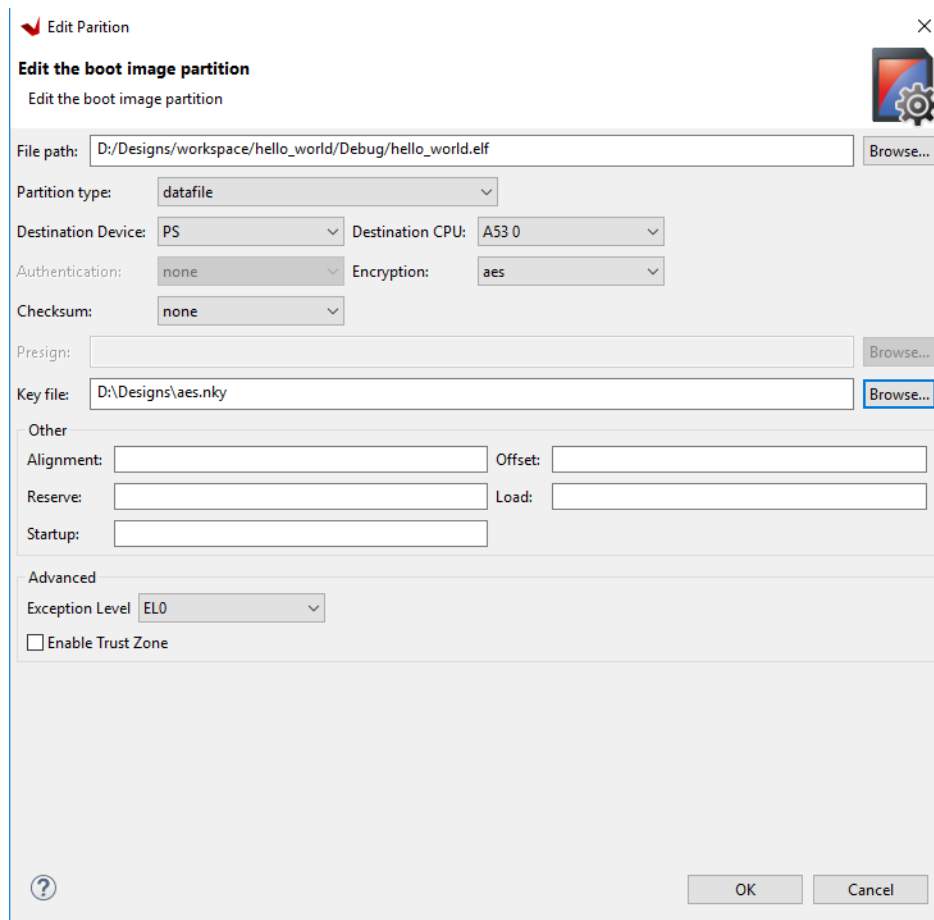

Figure 19: Encryption for hello_world Boot Image
- Next, double-click the `hello_world.elf`, change the encrypted option to AES, and browse to `aes.nky` file as Key file as shown in Figure 19. Click **OK**.